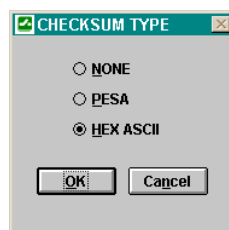

Figure 59 Checksum Type Window
6. Click the **Check Sum** button to open the CHECKSUM TYPE window (Figure 59).